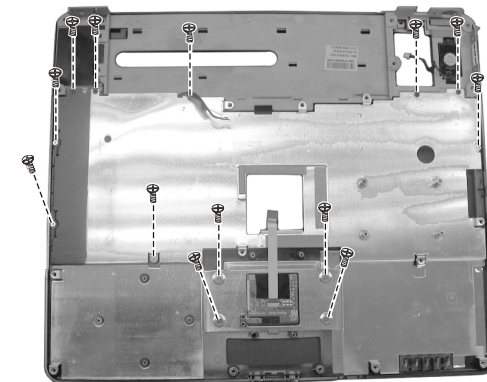

Figure 2-30 Free the touch pad
3. Remove the thirteen screws and lift the shielding, then free the touch pad. (Figure 2-30)